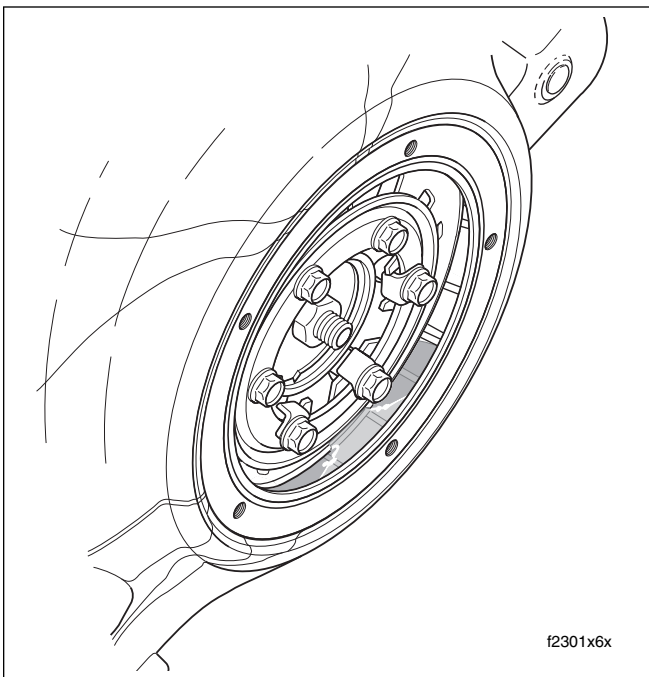

Figure 6-33. Add Primary Chaincase Lubricant
24. Pour 32 ounces (946 ml) of Harley-Davidson FORMULA+ TRANSMISSION AND PRIMARY CHAINCASE LUBRICANT through the clutch inspection cover opening, Part No. 99851-05 (quart). See Figure 6-33.